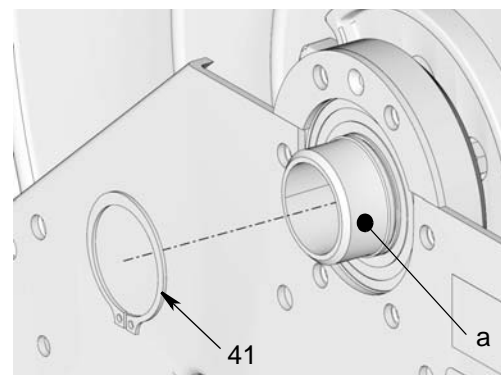

FIG. 34
6. **Install snap ring (41)** over shaft on the inlet side, using a snap ring pliers (FIG. 34). Do not scratch the sealing surface (a).